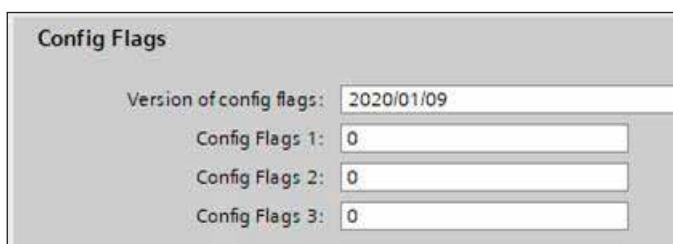

Fig. 47: Config Flags – MTS profile
- **Ignoring offsets configured in the project:** You can use the "Config Flags 1" entry to set whether the sensor should accept or ignore the offsets transmitted by the controller when establishing the connection. You can adjust this in the module parameters of the sensor in the "Config Flags" section (Fig. 47). You can set the following values for bit 1 of the "Config Flags 1" entry: